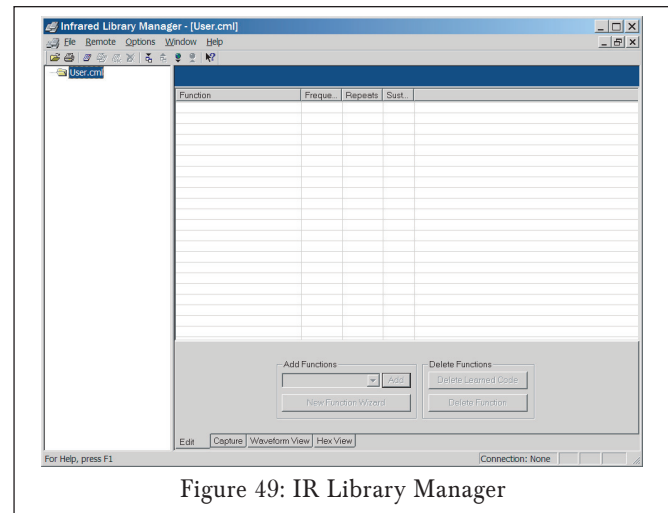

Figure 49: IR Library Manager
1. Open the Sonance Control Manager, open the LIBRARY menu and select IR LIBRARY MANAGER. The IR LIBRARY MANGER (Figure 49) window will open.
1. Open Sonance Control Manager and open the LIBRARY menu. Select IR LIBRARY MANAGER. The IR LIBRARY MANAGER window (*Figure 49*, opposite) will open.